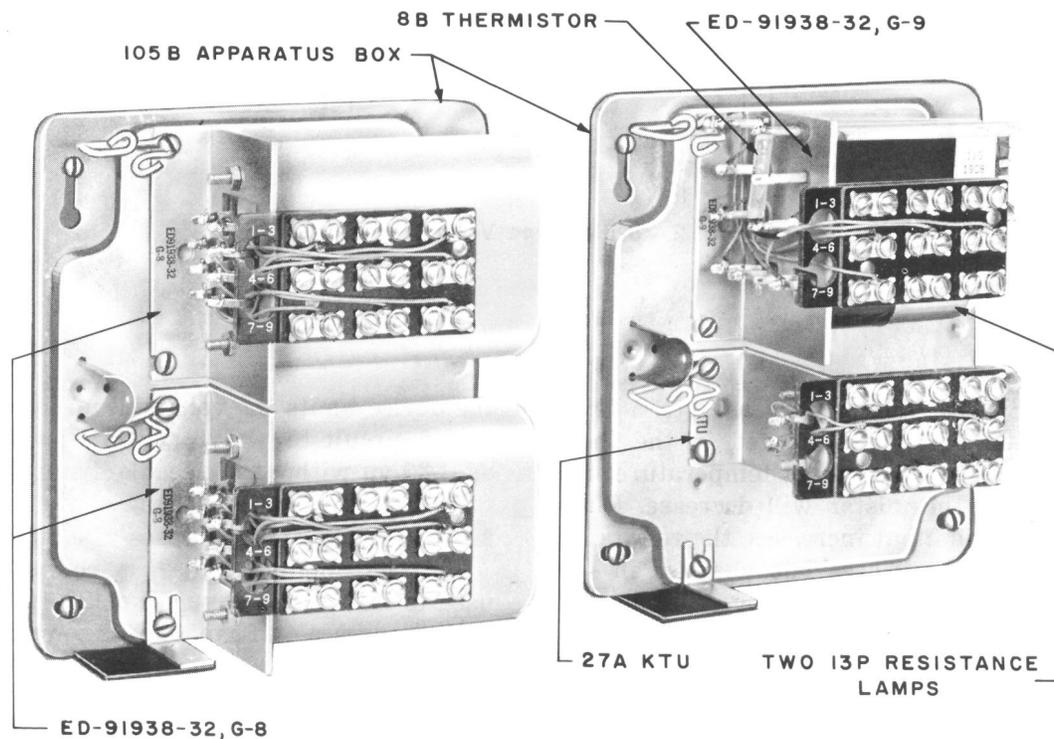

Fig. 1 - Volume Limiter
**2.01** The volume limiter is designed to limit the maximum transmission level which can be impressed on telephone facilities (see Fig. 1).